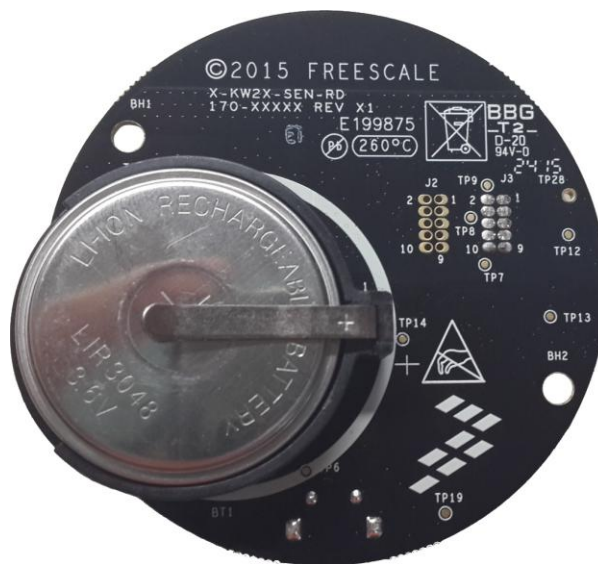

Figure 3. Battery placement
The demo kit contains two items: the main board and a LIR3048 coin-cell battery. The coin-cell battery must be placed in the main board’s battery holder before you use the device. Figure 3 shows position of the battery.
2. Make sure that the battery is inserted properly (see Figure 3).